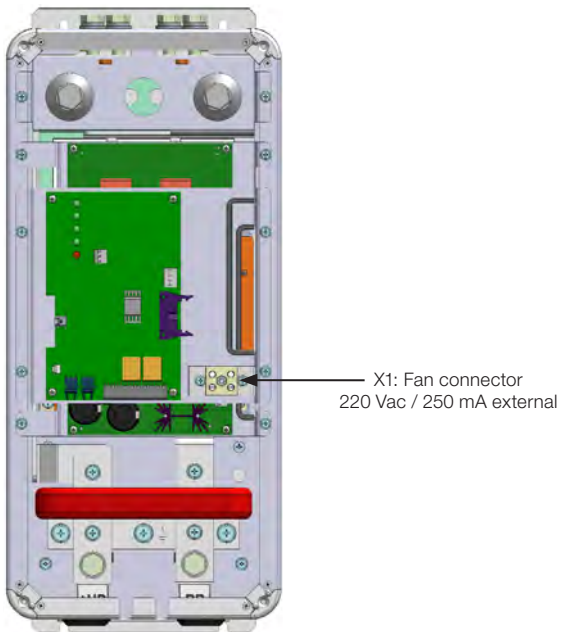

Figure 3.8: X1 terminal strip
- X1: Auxiliary power supply input for fan (220 Vac / 250 mA), see figure 3.8.